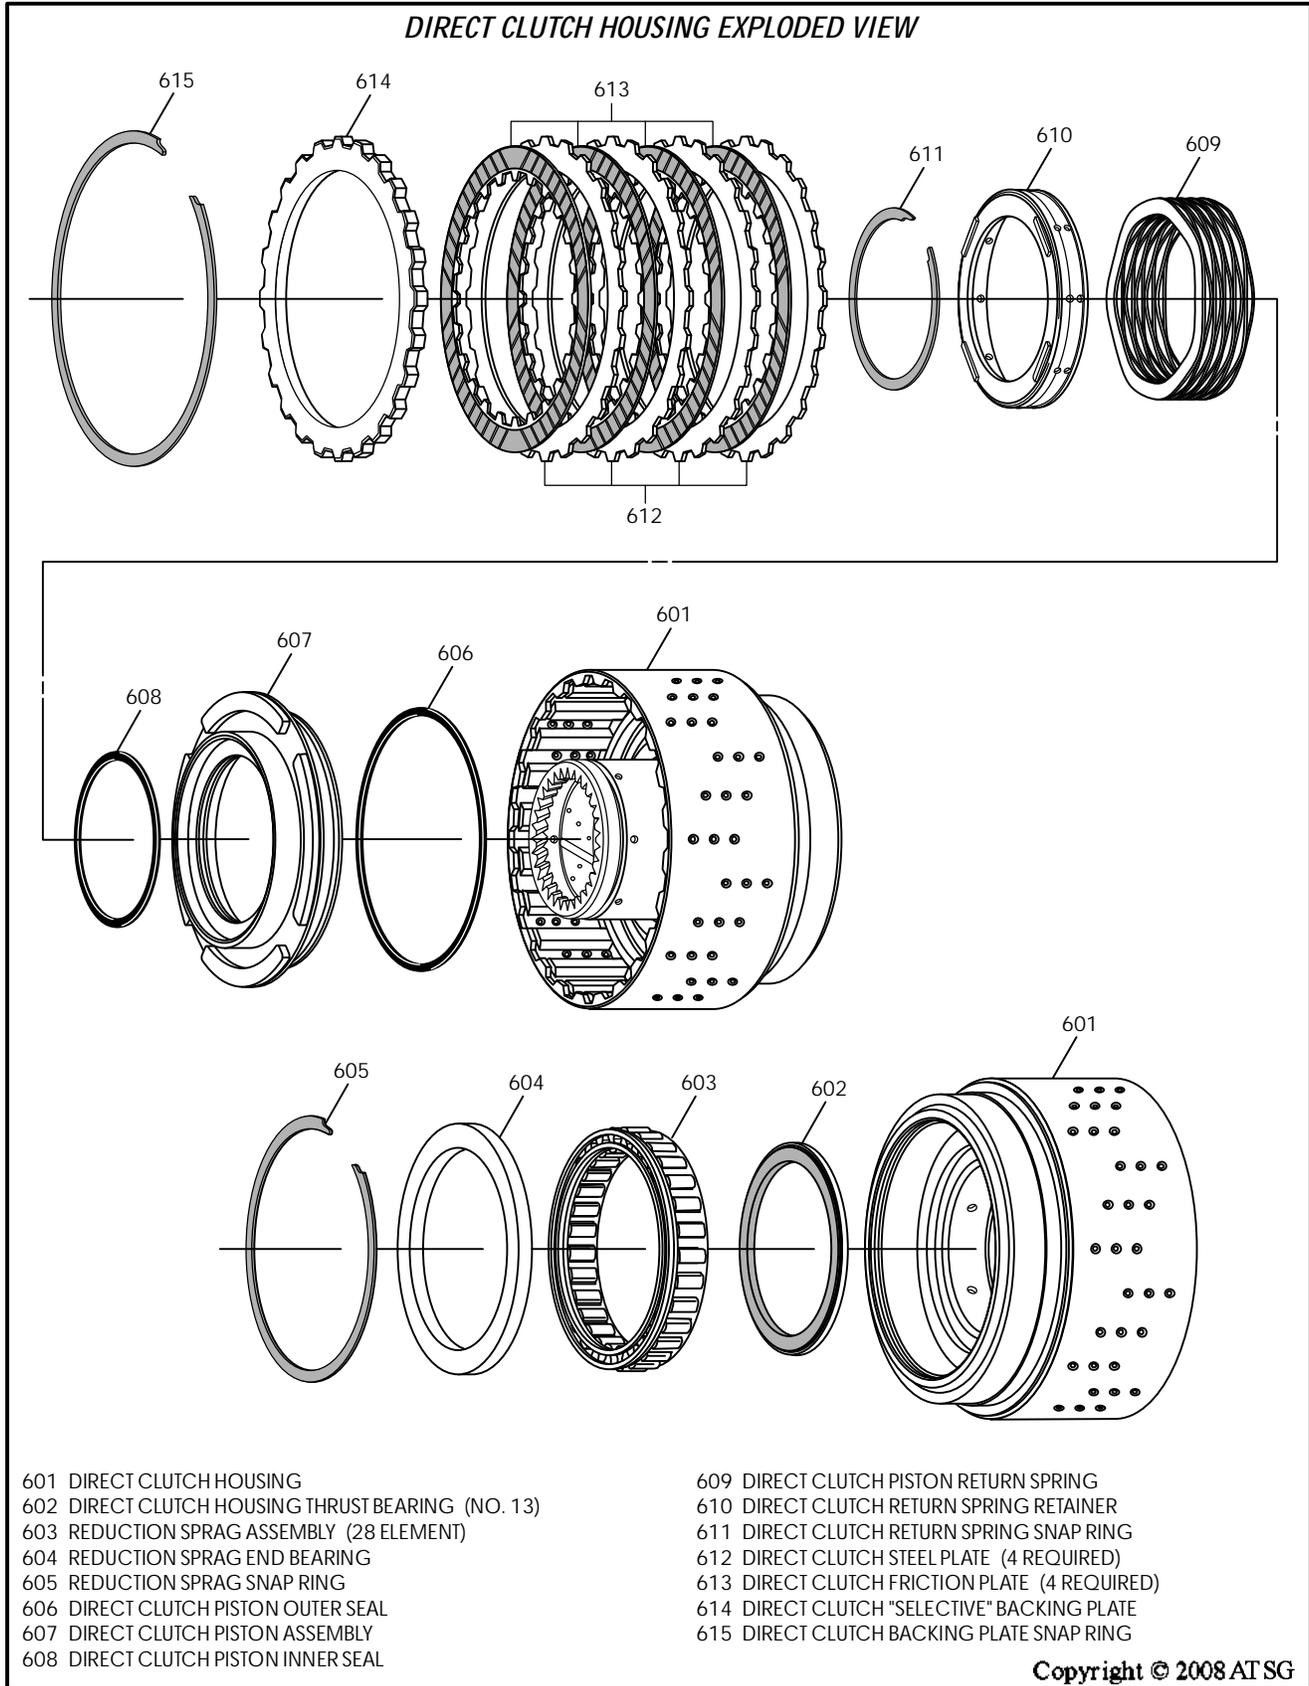

Figure 115
1. Disassemble the direct clutch housing using Figure 115 as a guide.